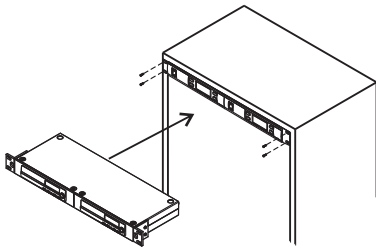

Fig. 7
- 4、 To be fitted on an EIA standard 19-inch rack case. Fig. 7.